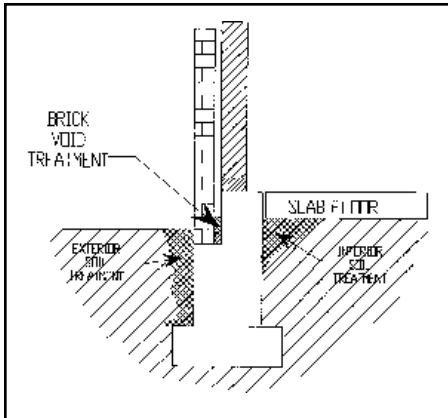

Figure 13. Concrete foundation treatment
This composite diagram (Figure 13) shows the total protection afforded to the structure by thoroughly treating (1) the voids in the brick veneer, (2) the sub-slab soil area along the expansion joint, and (3) the